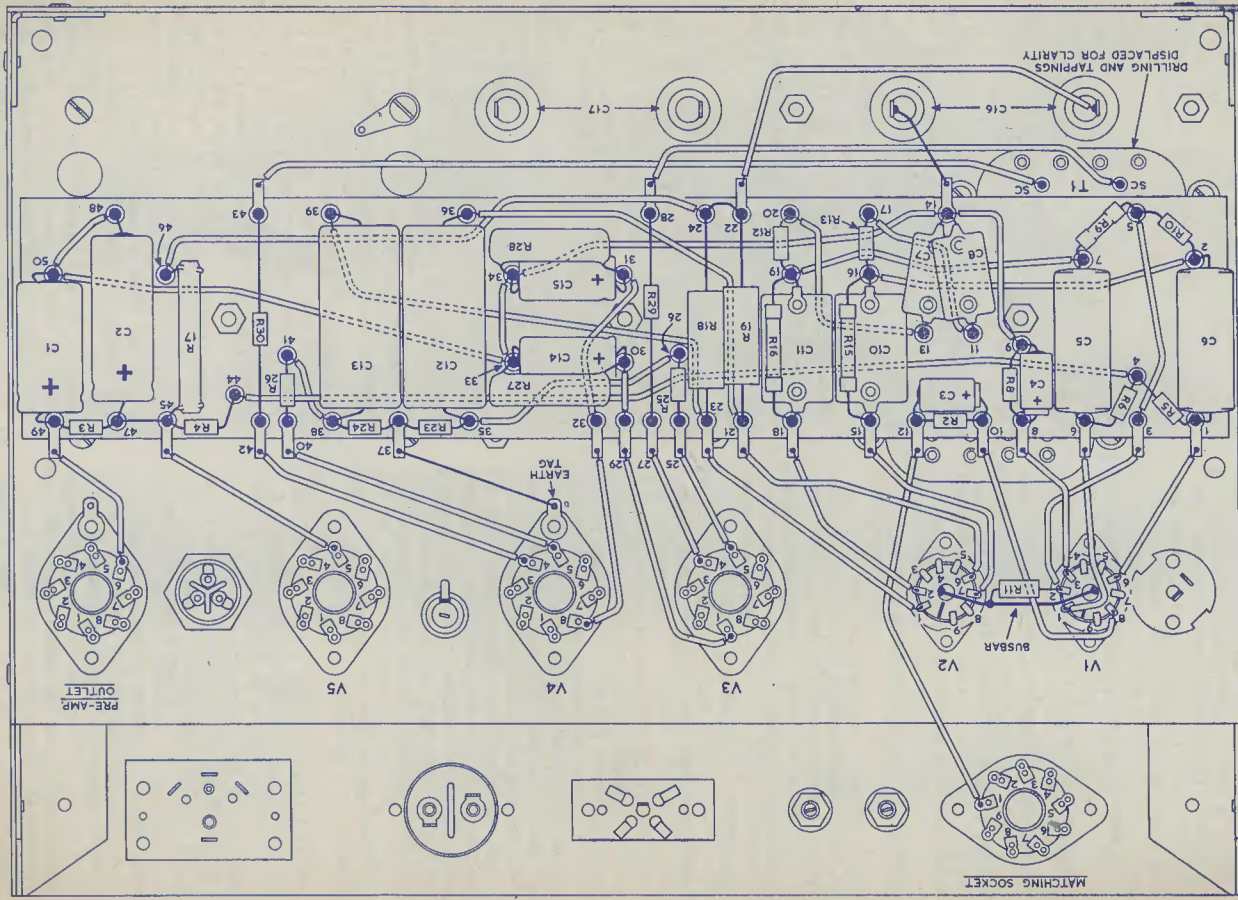

Fig. 6. The components and wiring fitted in the second wiring stage
The second stage of wiring is concerned with the fitting of components to the group board, and should be carried out before the board is fitted to the chassis. The connections made are shown in Fig. 6, which illustrates both the second and third wiring stages. When it is wired, the group board will be mounted over the three long 2BA bolts fitted in step 1. Sufficient clearance should be left between components and wiring adjacent to the three corresponding holes in the group board to enable the securing 2BA nuts and washers to be eventually fitted and tightened up.
wiring stage are to the holes in the appropriate tags and eyelets. It is only in the third stage that connections are made to the tags projecting over the sides of the group board. The tags and eyelets on the group board are numbered in Fig. 6. The instructions which follow refer to these numbers, and, also, to the eyelets as "tags". There is no wiring under the group board.
50. Connect C_8 (470pF) between tags 11 and 14, soldering at both tags. As shown in Fig. 6, C_8 is positioned so that it overlaps C_7 .
- In this stage all connections made to group board tags are soldered to the tag projections on either side of the board. The third wiring stage is also illustrated in Fig. 6.
89. Without sleeving, connect tag 37 to V_4 chassis tag, as indicated in Fig. 6.
94. Fitting sleeving, and shortening the previously-fitted lead as necessary, connect the right hand "SC" tag (see Fig. 6) of T_1 to tag 43, soldering at tag 43.
95. Fitting sleeving, and shortening the previously-fitted lead as necessary, connect the left hand "SC" tag (see Fig. 6) of T_1 to tag 28, soldering at tag 28.